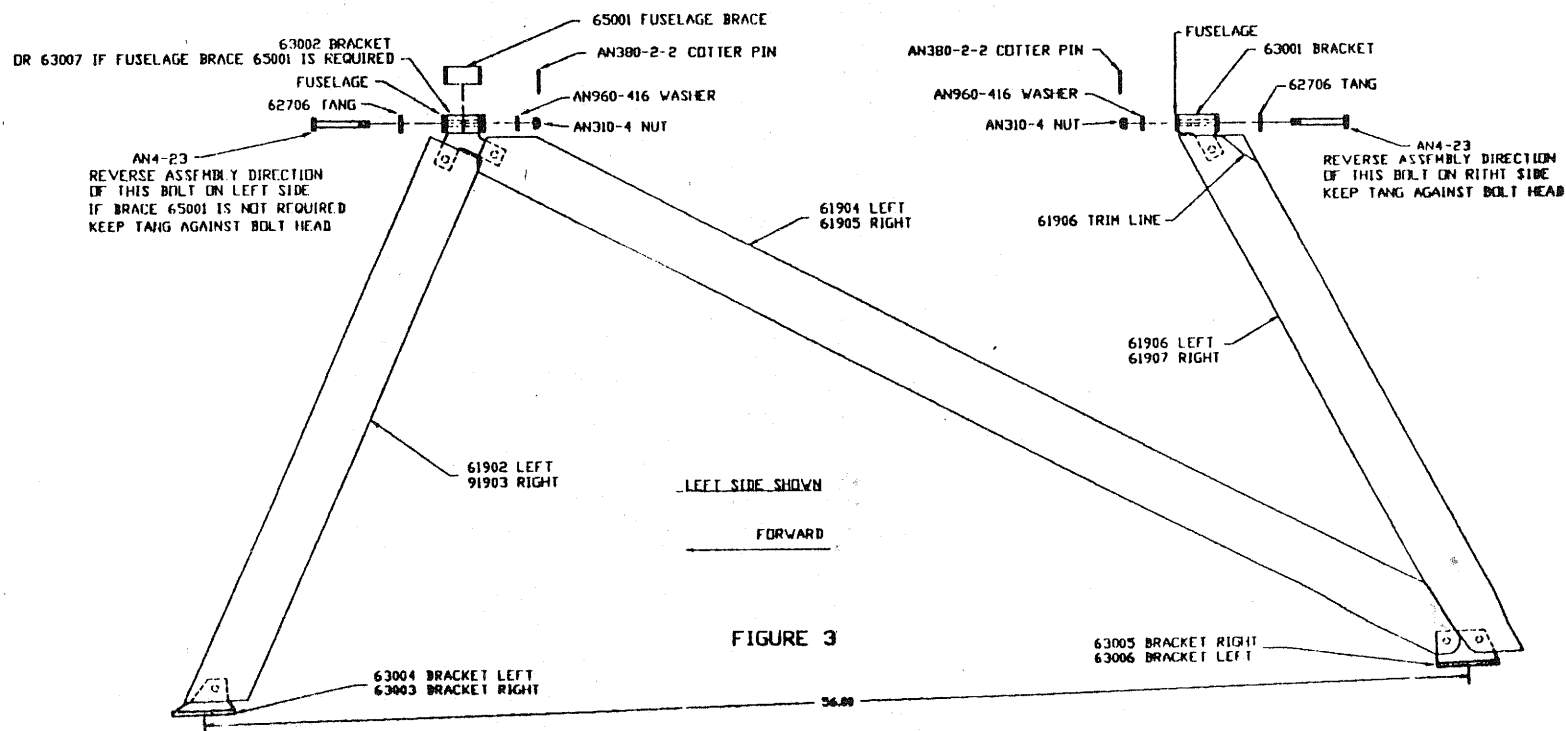

FIGURE 3
STEP (25): Attach the #66017 Cable Assemblies as shown in Fig. 3, with the lower tang under the AN9600C516 washer and AN365C524 Nut on the AN5C14A Bolts. Tighten the nuts to about 120 inch pounds.